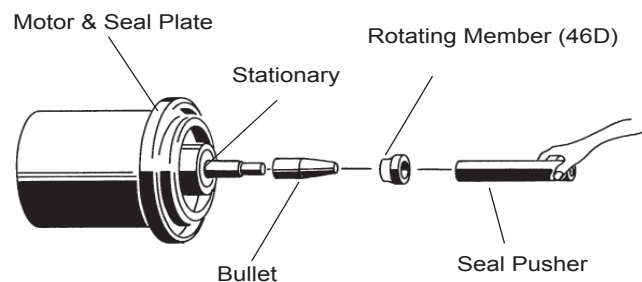

FIGURE 7
Slide retaining ring (46d) over shaft and let rest on bearing (47). Place spring (46c) over shaft and let rest on retaining ring (46d). Lightly oil (DO NOT use grease) shaft, bullet and inner surface of bellows on rotating member (46b) (See Figure 7), with lapped surface of rotating member (46b) facing outward, slide over bullet and onto shaft using seal pusher, making sure spring (46c) is seated in retaining ring (46d) and spring (46c) is lined up on rotating member (46b) and not cocked or resting on bellows tail.